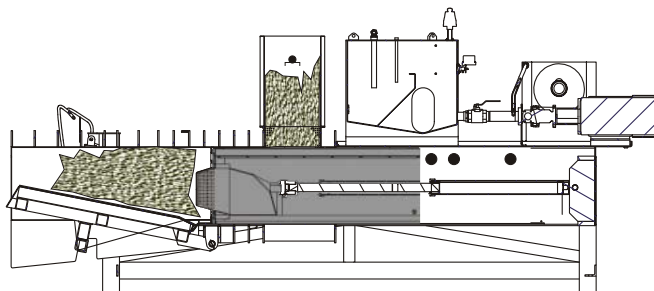

Figure 27 - Plunger Extends, Product Falling On Top Of Plunger
6. **PLUNGER STOPS** The plunger stops at full extension (home position), product piling on plunger. PROX 4, PROX 3 and PROX 2 are deactivated (see Figure 27 page 12).
5. **PLUNGER STOPS** The plunger stops at full extension (home position), product piling on plunger. PROX 4, PROX 3 and PROX 2 are deactivated (see Figure 27 page 12).